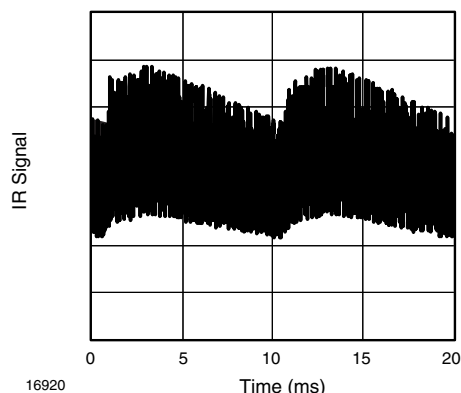

Fig. 13 - IR Signal from Fluorescent Lamp with Low Modulation
- Strongly or weakly modulated patterns from fluorescent lamps with electronic ballasts (see Fig. 13 or Fig. 14)